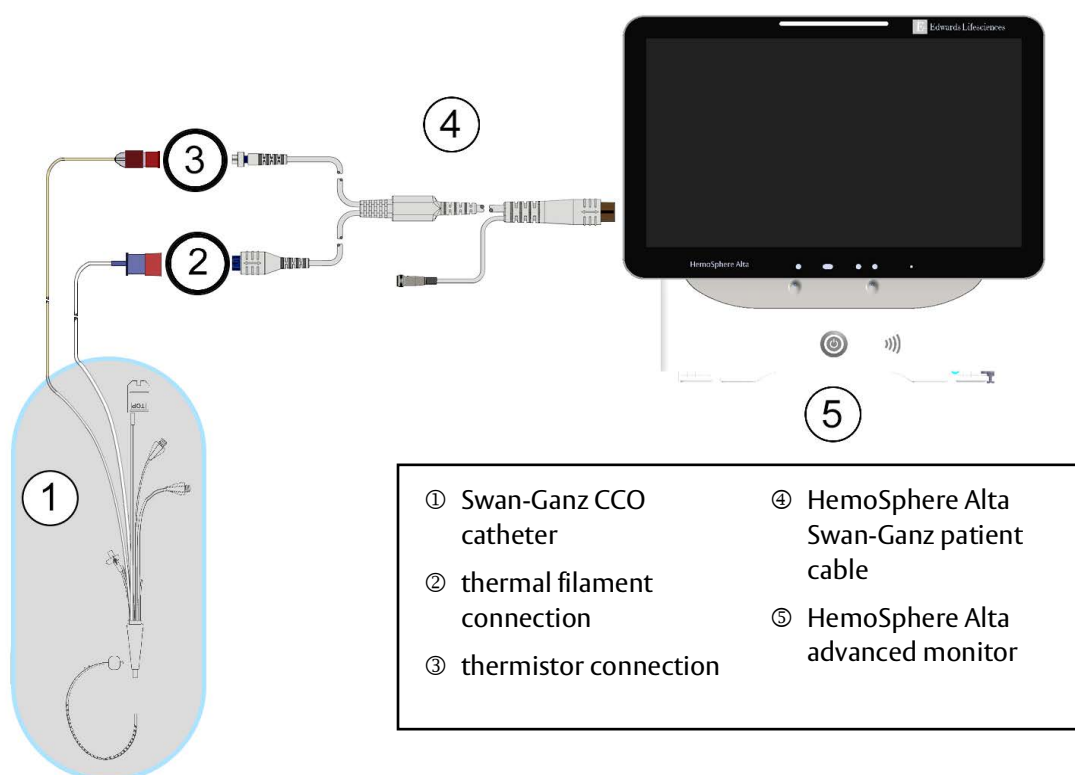

Figure 8-2 CO connection overview
- 2 Attach the catheter end of the patient cable to the thermistor and thermal filament connectors on the Swan-Ganz CCO catheter. These connections are emphasized as numbers ② and ③ in Figure 8-2 on page 147.